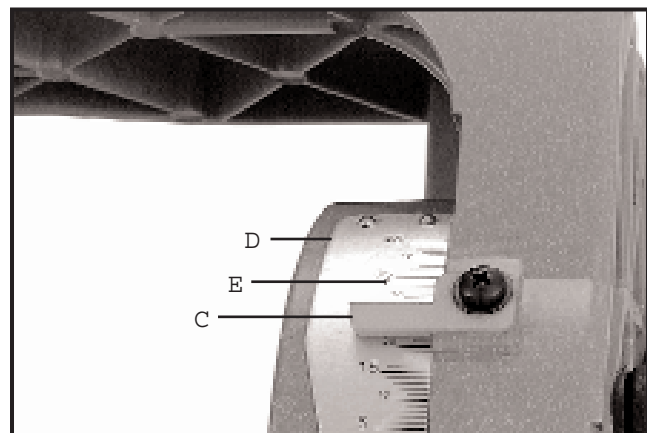

Fig. 26
2. Positive stops are provided to rapidly position the saw blade at 90 and 45 degrees to the table. Refer to the section of this manual titled Adjusting 90 and 45 degree bevel positive stops. The bevel angle of the cutting arm is determined by the position of the pointer (C) Fig. 26, on scale (D).
3. In addition, an indicator (E) Fig. 26, is provided on the bevel scale at the 33.9 degree bevel angle for cutting crown moulding. Refer to the CUTTING CROWN MOULDING section of this manual.